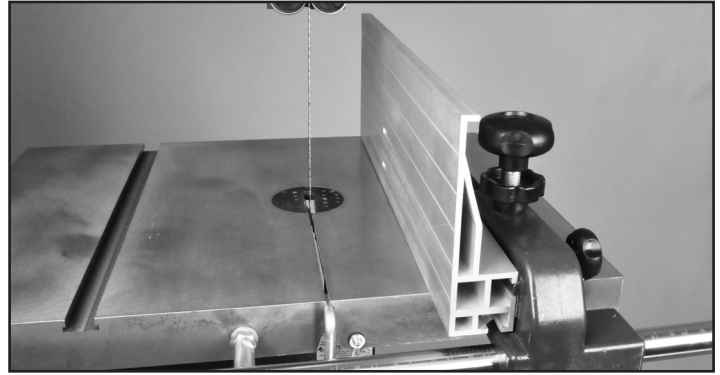

Figure 31
4. Once in place, retighten the side handle to secure the fence in position on the carrier. Fig. 31.